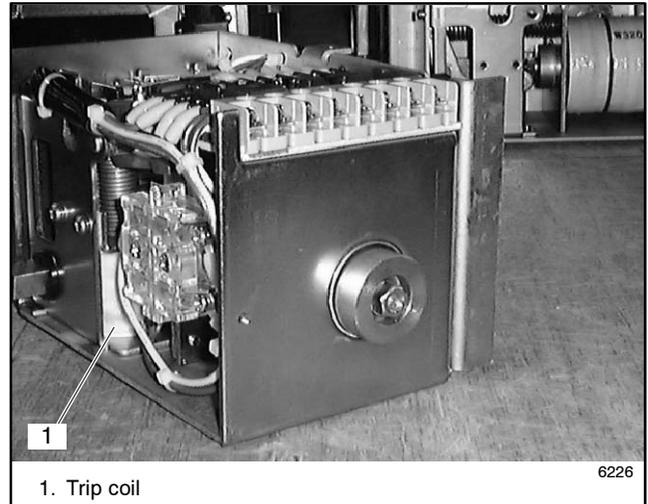

Figure 6-21 Trip Coil Location
- Locate the trip coil. See Figure 6-21.